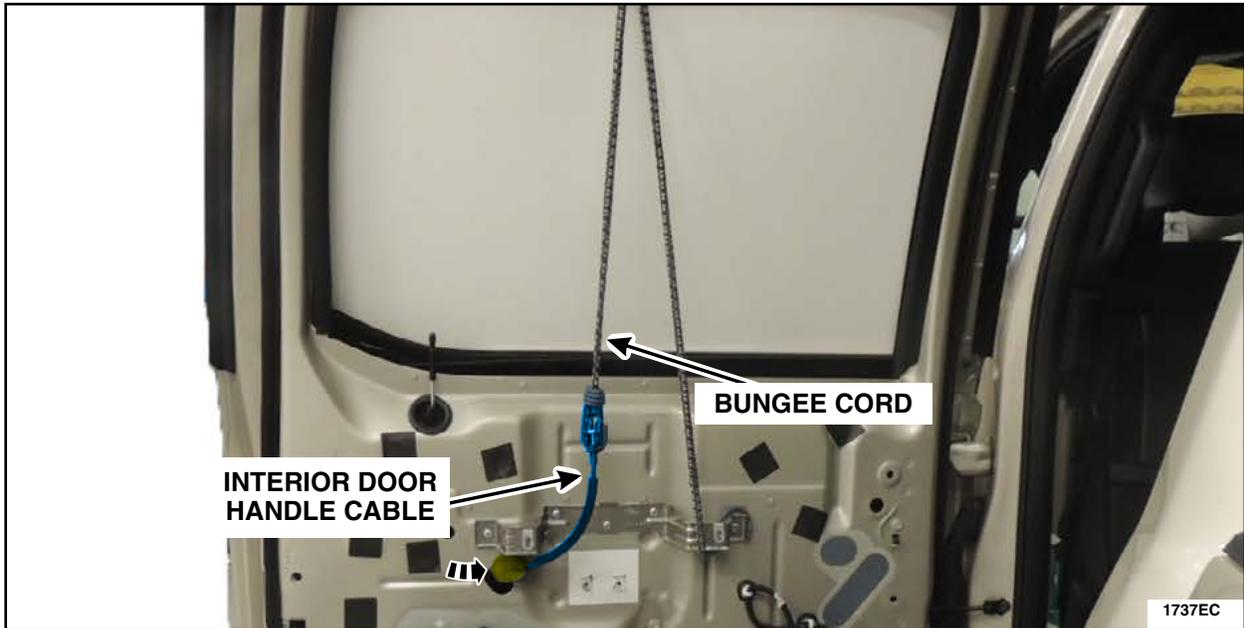

FIGURE 90
15. Using a bungee cord or other similar device, secure the interior door handle cable to the door in an upward position to allow the lubricant time to run down into the cable, until the interior door handle cable is reinstalled later in this procedure. See Figure 90.